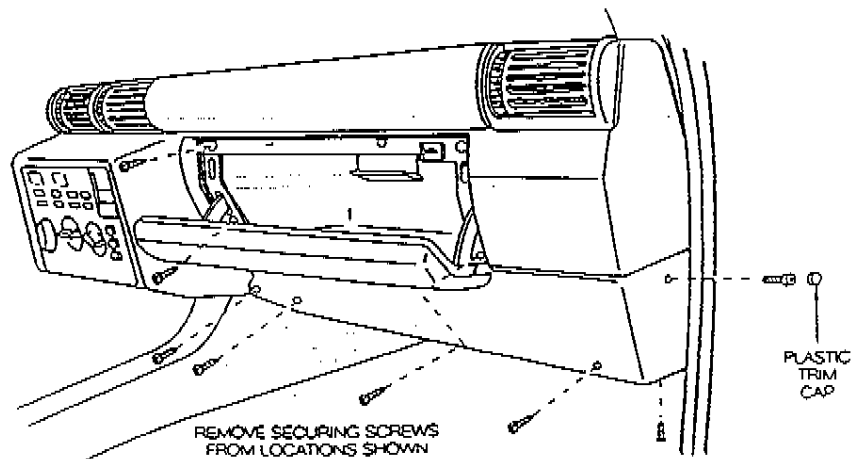

FIGURE 7
1. See Figure 7 . Open glove box door and carefully remove the securing screws as shown. Close glove box door and remove the remaining securing screws. Make sure you remember which screws are fitted with plastic trim caps since these screws with plastic trim caps must be reinstalled in their original location during reassembly.